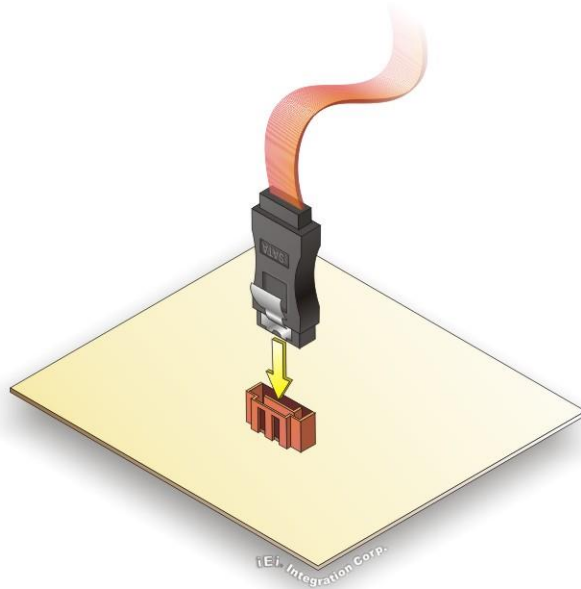

Figure 4-1: SATA Drive Cable Connection
Step 2: Insert the cable connector. Insert the cable connector into the on-board SATA drive connector until it clips into place. See **Figure 4-1**.